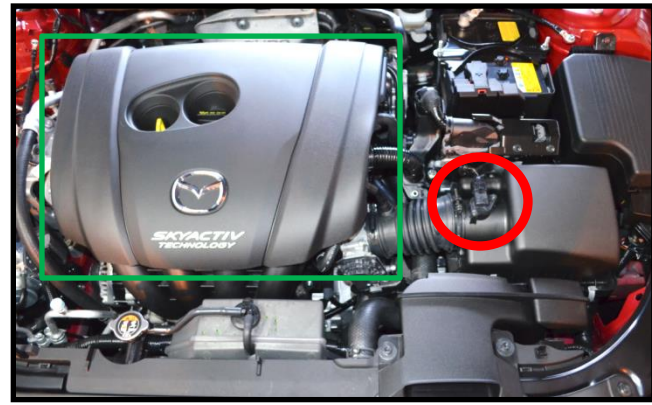
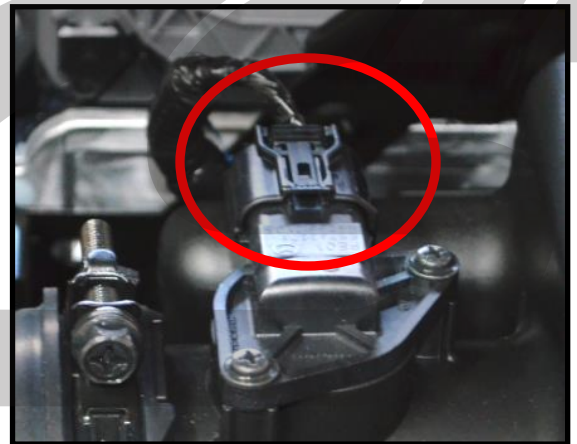

Figure 1a
Figure 1b
- a) Remove Engine Cover by pulling up on it. (Shown in green square Figure 1a)
- b) Unplug MAF sensor (shown in Figure 1a with a red circle and in Figure 1b close up.)
- a) **Remove Engine Cover** by pulling up on it. There are no screws that hold it down. This will help when loosening the intake clamp. (Shown in green square Figure 1a)
- b) **Unplug MAF sensor** (shown in Figure 1a with a red circle and in Figure 1b close up.) Press down on the latch and the sensor will unplug.
- g) Reconnect wiring for MAF Sensor (Figure 1b).